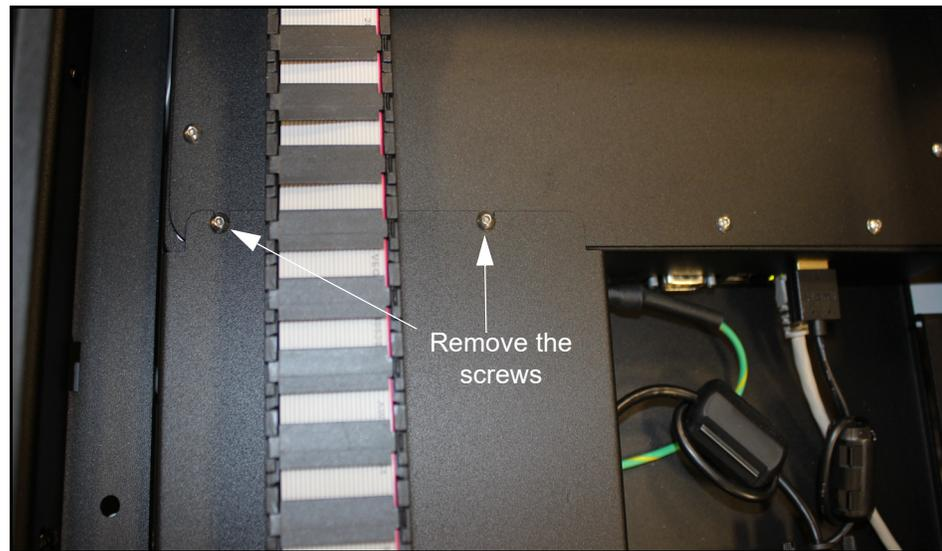

Figure 44
7. Remove the two screws using a 5/64" Allen wrench (see Figure 44).